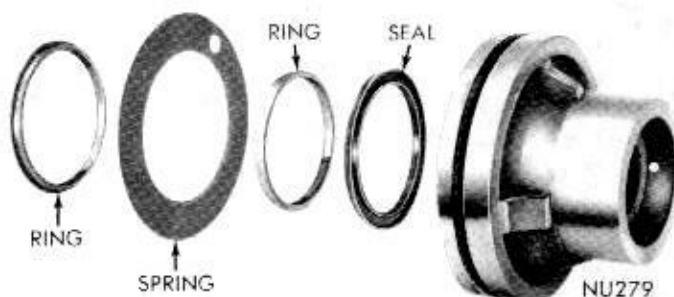

Fig. 22—Seal Ring In Housing Head
(43) Lubricate and install reaction seal in groove in face of housing head with flat side of seal out (Fig. 22 and 23). Install "O" ring in groove on housing head.
(44) Slide housing head and arbor, Tool C-3929 over the wormshaft carefully engaging cylinder head ferrule and "O" ring and making sure reaction rings enter circular groove in housing head. The power train is now ready for installation in housing.
(45) It is generally not necessary to remove sector shaft cover. However, this may be easily accomplished by removing the adjusting screw. While holding the cover, turn adjusting screw clockwise until the shaft becomes disengaged from cover. The adjusting screw will now slide out of the "T" slot in end of shaft.